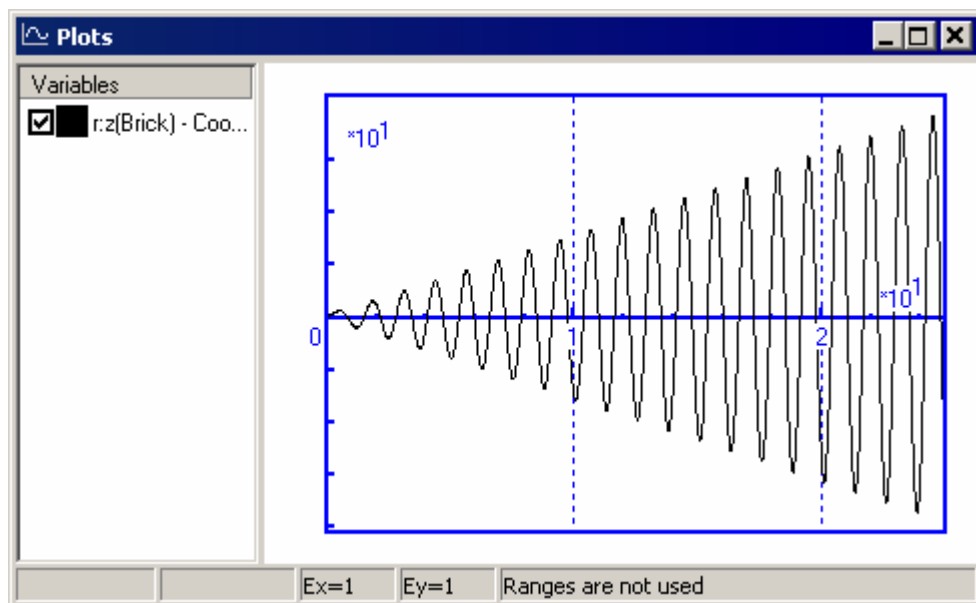

Figure 2.14. Forced oscillations: resonance case
3. Run integration. As we expected in the resonance case the amplitude of the oscillations increases in the long run, see the Fig. 2.14.